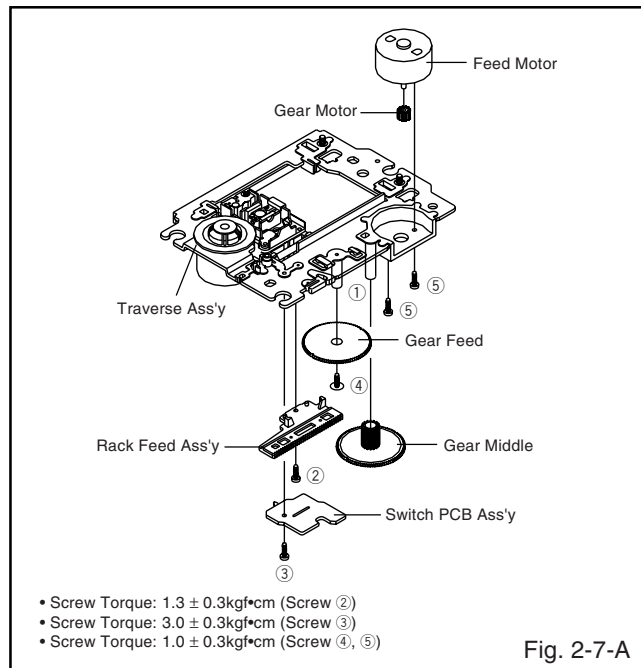

Fig. 2-7-A
1. When installing the Rack Feed Ass'y, push both ends to align the teeth as shown Fig. 2-7-B. Then install it.